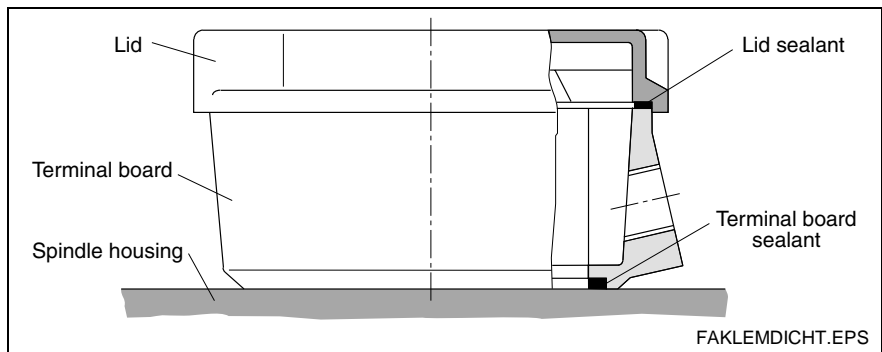

Fig. 11-25: Seals on the terminal box
- There must be a seal for both the terminal box and the lid (see Fig.11-25).